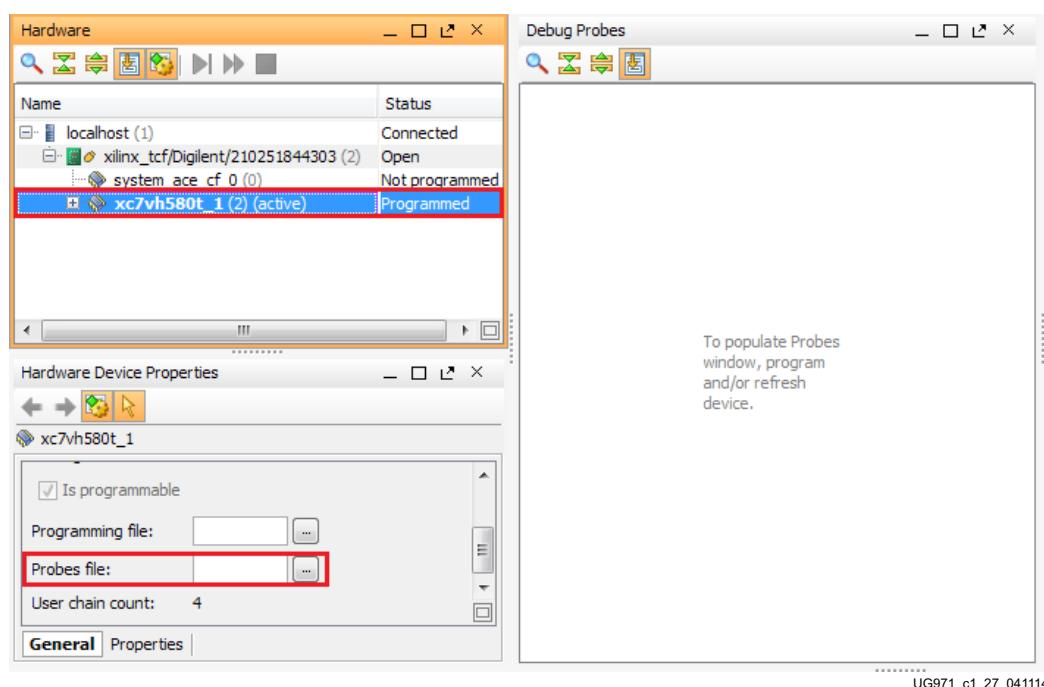

Figure 1-27: Adding the Probes File
1. The Vivado Design Suite Hardware window shows the System ACE SD Controller and the XC7VH580T devices. The XC7VH580T device is reported as programmed. In the Hardware Device Properties window, enter the file path to the Q300 Probes file (vc7222_ibert_q300_debug_nets.ltx) in the extracted IBERT files from the SD card (Figure 1-27).